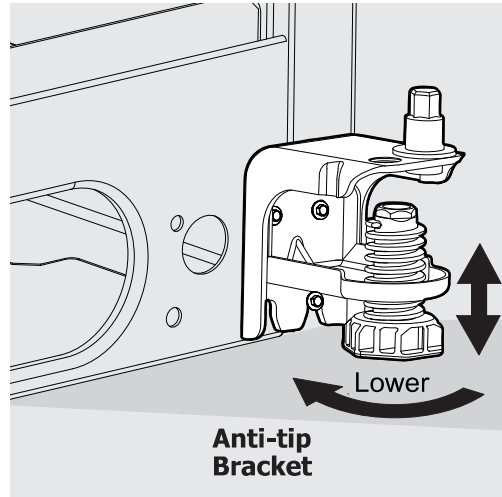

Figure 4 (some models)
- 4 Some models are equipped with an anti-tip bracket (Figure 4). Lower it clockwise until it contacts the floor.